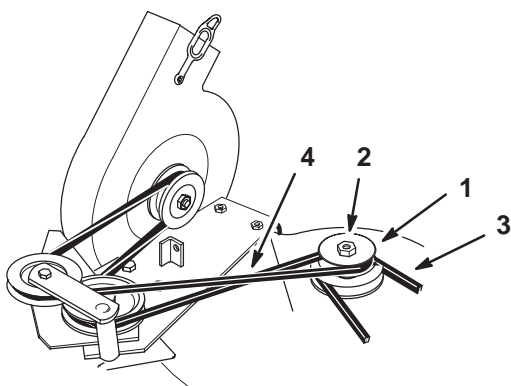

Figure 7
4. Slide the new double pulley onto the spindle shaft with the word **Top**, stamped into largest pulley, facing up. Secure with previously removed lock washer (5/8 inch) lock washer and nut (5/8 inch) (Fig. 7).
6. Install the existing mower belt onto the bottom pulley (Fig. 7).